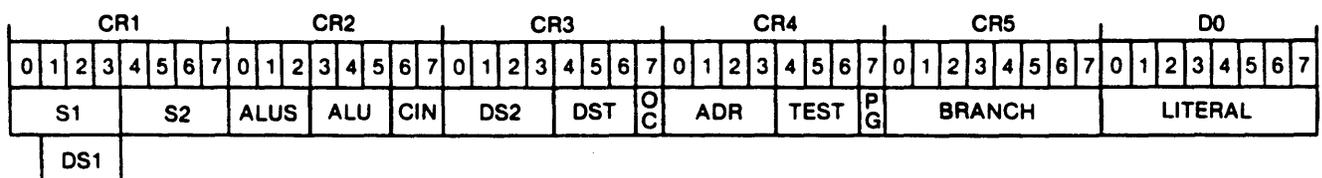

Figure 5-8. Microinstruction Word
**Control Memory and Register**—The control memory stores the firmware that controls the operation of the coupler. It comprises six 512 x 8 bit Programmable Read-Only Memories (PROMs) identified as D9, D10, D11, D12, F13, and F14, on Sheet 10. The PROMs have a pipeline register at the output identified as the Control Register (CR). The six PROMs produce a 48-bit instruction word divided into six 8-bit fields. Figure 5-8 depicts the instruction word.